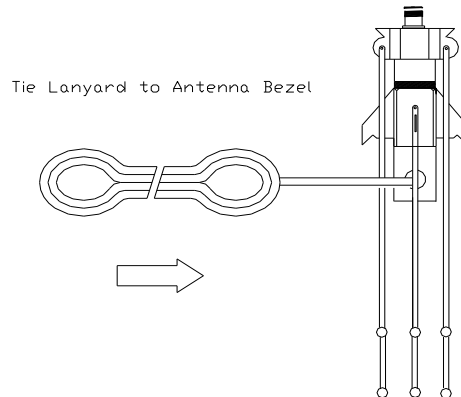

**Figure 1 – Parts Diagram**
1. **Part List:** Package includes retractable antenna, RF feed-line with connector, and lanyard (rope). See Figure 1: Parts Diagram.